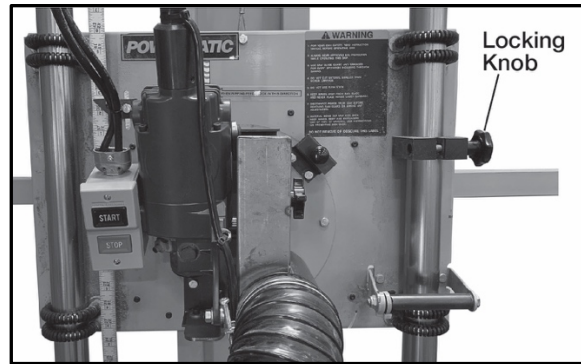

Figure 3
2. Loosen the locking knob on the motor carriage and move the carriage down to the bottom of the panel saw frame (see Figure 3). Tighten the locking knob securely.